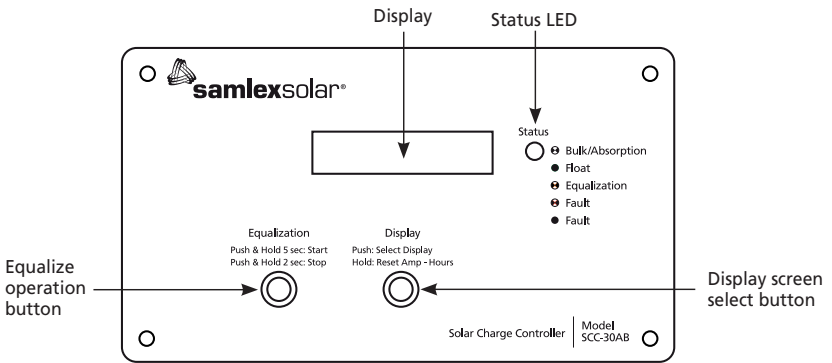
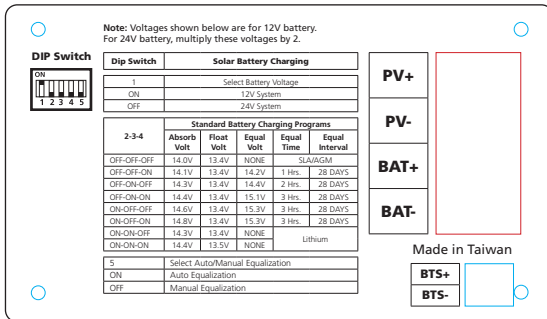
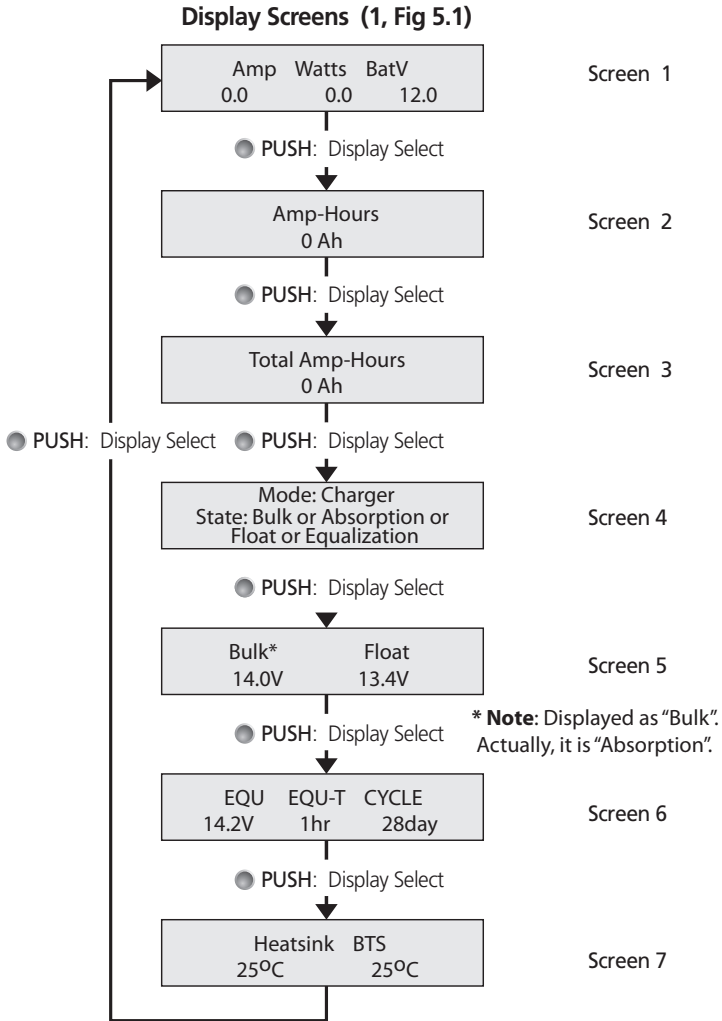

Fig. 5.1. Front Panel of SCC-30AB
Fig. 5.2. Back view of SCC-30AB
Fig. 5.3. LCD Display Flow
Equalization is carried out either automatically after every 28 days or manually when desired. Equalization Voltage Regulation Sets Points and Equalization Time / Interval will depend upon the type of battery being charged and can be programmed with the help of DIP Switches 2,3,4 located at the back of the unit (Fig 5.2). Voltage regulation Set Points will depend upon the type of battery being charged. This information is available as follows:
- At the back of the unit - Fig 5.2
Automatic equalization after interval of 28 days or manual equalization can be selected with the help of DIP Switch 5 located at the back of the unit (Fig 5.2).
When manual equalization is selected, equalization can be started and stopped manually with the help of Equalization Button on the front panel of the unit (Fig 5.1). Please see under heading “Push Buttons”, Table 5.2 on page 37 for manual ON / OFF procedure.
- Screen 6 displays the set Equalization Voltage (under EQU), the Equalization Time (under EQU-T) and 28 day period (under CYCLE) pertaining to one of the 6 options of battery types that has been selected with the help of DIP Switches 2, 3, 4 (Fig 5.2 and Table 6.1)
Automatic equalization after interval of 28 days or manual equalization can be selected with the help of DIP Switch 5 located at the back of the unit (Fig 5.2). Please refer to Fig 4.1B.
During this stage, LCD Screen 4 (Fig 5.3) displays " State: Equalization". LCD Screen 6 (Fig 5.3) displays the programmed Equalization parameters. Screen 1 (Fig 5.3) shows the programmed value of Equalization Voltage Regulation Set Point "Ve" under "BatV". The Status LED on the front panel will blink ORANGE, once per second.
**NOTE:** During Equalization Stage, if the load current is more than the current from the solar panel, the battery voltage will drop. If the battery voltage drops around 1V below the Equalization Transition Voltage Set Point “Ve” for around 1 min, the controller reverts to Bulk Stage with 100% Duty Cycle. The LCD Screen 4 (Fig 5.3) will still display “State: Equalization” and the front panel Status LED will still be blinking Orange. It will revert to PWM when the battery voltage reaches Equalization Transition Voltage Set Point “Ve” and is sustained for a minimum period of around 50 to 55 sec.
"Isc" with very low Duty Cycle of 0% to < 10% to keep the battery voltage constant at the Float Voltage Regulation Set Point "Vf". During this stage, the battery is 100% charged and a very low "Trickle Charge" of around 0.1% of the Ah Capacity is required to be fed to the battery to compensate for self-discharge. The battery can be left at this stage for prolonged period of time. During this stage, the LCD Screen 4 (Fig 5.3) displays "State: Float". Screen 5 (Fig 5.3) displays the programmed Float Voltage Regulation Set Point (Displayed on the screen under "Float").
**NOTE: During Float Stage, if the load current is more than the current from the solar panel, the battery voltage will drop. If the battery voltage drops around 1V below the Float Voltage Regulation Set Point "Vf" continuously for around 1 hour, the controller reverts to Bulk Stage and the LCD Screen 4 (Fig 5.3) changes to "State: Bulk".**
Manual equalization can be selected with the help of DIP Switch 5 located at the back of the unit (Fig 5.2).
When manual equalization is selected, equalization can be started and stopped manually with the help of Equalization Button on the front panel of the unit (Fig 5.1).
The controller has provision for temperature compensation with the help of Temperature Sensor. This Temperature Sensor is required to be connected to the terminals marked BTS+ and BTS- (Fig 5.2).
SCC-30AB is designed for flush mounting on a wall / panel. The controls and indications are built on the Front Panel face plate that has 4 countersunk holes for flush mounting (Fig. 5.1). All the electronics, DIP switches for settings, terminal strip for connections for the PV Array and the Battery and terminal for the Battery Temperature Sensor (BTS) are mounted on a PCB that is in turn mounted at the back of the face plate (Fig. 5.2). For flush mounting on the wall / panel, a suitable cutout is required to be made in the wall / panel to accommodate the PCB at the back of the unit. As the components at the back of
A single, 3-color LED (GREEN, RED, ORANGE) marked "Status" (2, Fig 5.1) is used to indicate charging stages and faults as given below in Table 5.1.
Display (3, Fig 5.1)	Push to change the LCD display screens (Fig. 5.3) Push and hold to reset Amp-Hours.
Equalization (4, Fig. 5.1)	When DIP Switch 5 is set at OFF, hold Restart / Stop Equalization for 5 sec to manually start equalization. Press it for 2 sec to stop equalization.
The LCD Display (1, Fig. 5.1) is a 2 Line, 16 character display with backlighting. The backlighting switches OFF after 30 seconds and switches ON again when any button is pressed. The Push Switch marked "PUSH: Select Display" (3, Fig. 5.1) and "HOLD: Reset Amp Hours" (3, Fig 5.1) is used to manipulate the LCD functions. Every time the Push Switch is pressed momentarily, the screen display scrolls. The scrolling sequence is shown in Fig. 5.3. Please note that the 7 screens are sequential & are displayed in a continuous loop: 1 - 2 - 3 - 4 - 5 - 6 - 7 - 1 - 2 - 3 and so on (See Fig. 5.3). When selected, Screens 2 to 7 will be displayed for 15 minutes and thereafter, will revert to Screen 1 (Default Screen). Details of information provided in the LCD screens (Fig 5.3) are given below:
The back of the unit (Fig 5.2) has the following input / output connections and DIP Switches for various settings.
As soon as Battery (+) is connected, the Status LED (2, Fig 5.1) will be steady Orange and message “Welcome to Samlex Solar 1.0” will be displayed for around 3 to 5 sec. After this, the LED will blink Green & Screen 1 (Fig 5.3) will be displayed: Amp 0.0; Watt 0.0; BatV=“the battery voltage”.